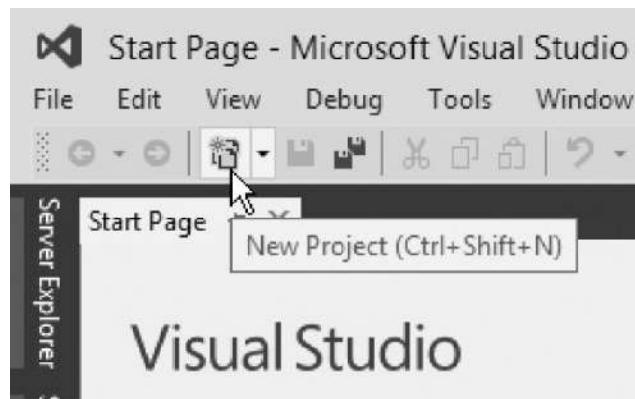

Figure 5-1 The New Project toolbar button
- ▶ Click the New Project button on the toolbar, as shown in Figure 5-1 .